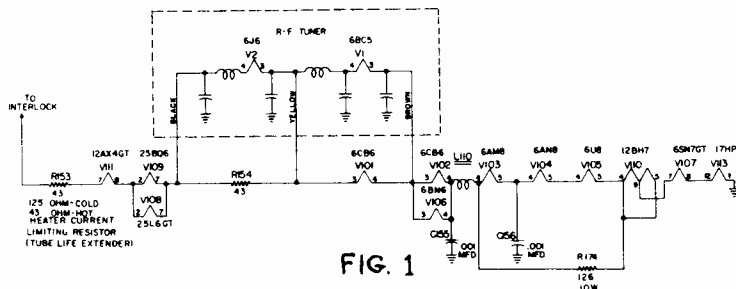

FIG. 1
- R156, R157, and R158, filament shunt resistors (43 ohm, 10%, 2 watt), are replaced by R174, 126 ohm, 10%, 10 watt resistor, Part No. 158230. The change in the schematic is given in Figure 1. Chassis 426 incorporating this change are stamped with code letter F or later.